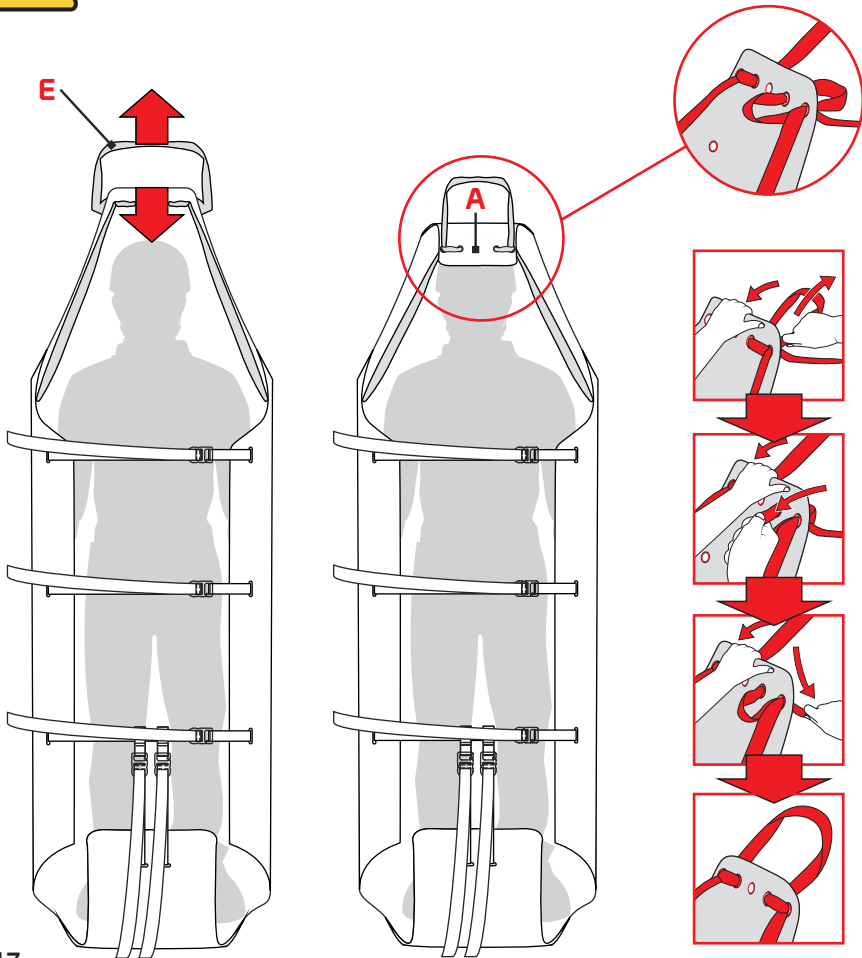

Fig.17
- c) Tension the sling (E) to lift the end part of the support surface (A) enough to contain the head of the patient and immobilise it (fig. 17).